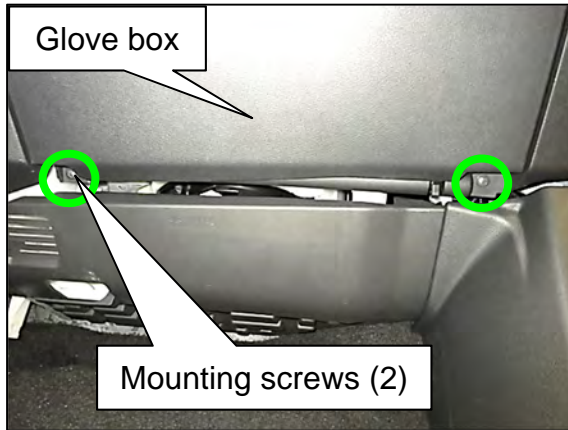
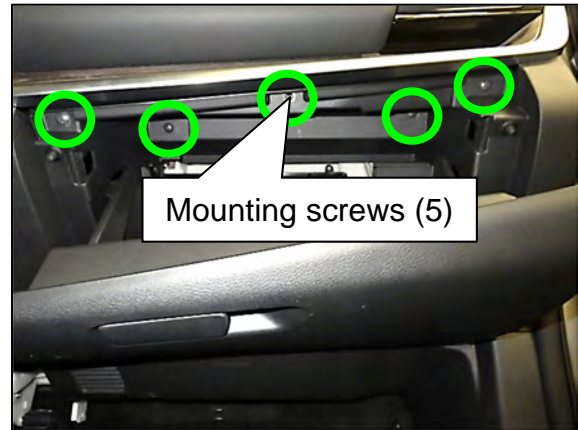

Figure 51
Figure 52
36. Remove the seven (7) glove box mounting screws (Figure 51 and Figure 52).